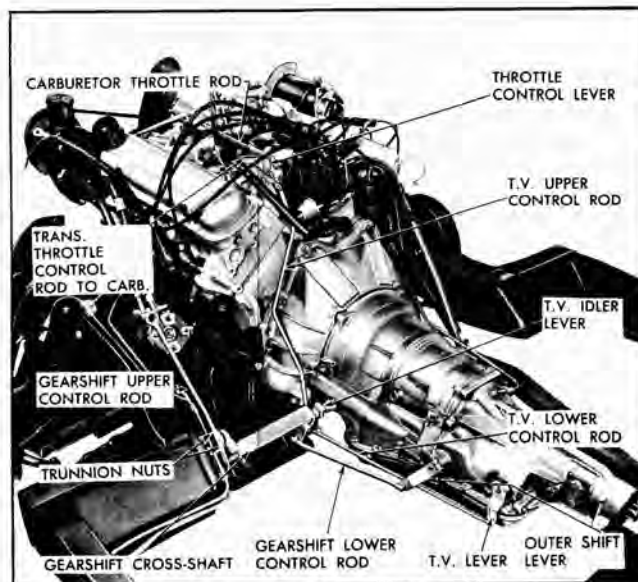

Fig. 35 Throttle Control Linkage
6. Push T.V. upper control rod downward until the outer T.V. lever is felt to touch end of travel (Fig. 35).
7. While holding T.V. upper control in this position, tighten upper and lower trunnion lock nuts finger tight (Fig. 35). Shorten T.V. upper control rod by backing off lower trunnion nut $2\frac{1}{2}$ turns and tighten upper nut securely. Remove gauge pin.
position and, with the gearshift upper control rod trunnion nuts (Fig. 35) backed clear of the trunnion, pull the shift rod down toward the transmission as far as possible. While holding rod in this position, run the trunnion upper nut down to just contact the trunnion. Run lower nut up to contact trunnion and lock nuts securely.